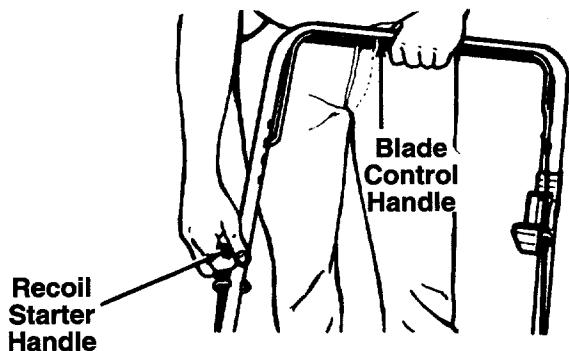

FIGURE 5.
4. Standing behind the unit, depress the blade control handle and hold it against the upper handle as shown. See figure 5.
5. Grasp starter handle (see figure 5) and pull rope out slowly until engine reaches start of compression cycle (rope will pull slightly harder at this point). Let the rope rewind slowly.